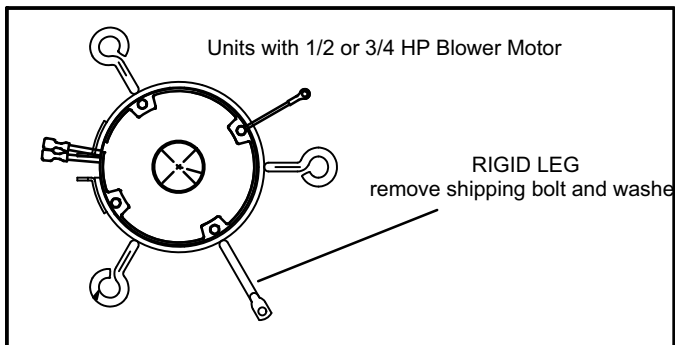

FIGURE 6
**NOTE** - Units with 1/2 or 3/4 hp blower motors are equipped with three flexible legs and one rigid leg. See figure 6. The rigid leg is equipped with a shipping bolt and a flat white plastic washer (rather than the rubber mounting grommet used with a flexible mounting leg). **The bolt and washer must be removed before the furnace is placed into operation.** After the bolt and washer have been removed, the rigid leg will not touch the blower housing.